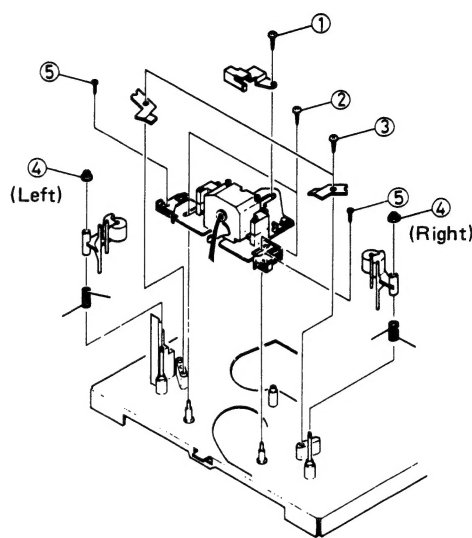

Fig. 7
1. Left pinch roller (Fig. 7)
2. Right pinch roller (Fig. 7)
- 1) Take out adjust screw (4) VKS4513-001 retaining the pinch roller arm assembly.
3. Head assembly replacement (Fig. 7)